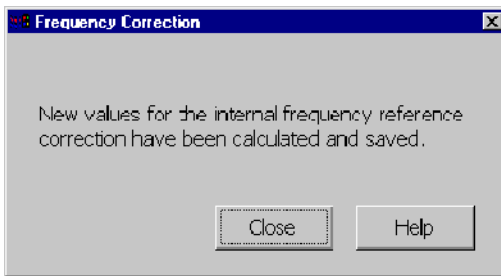

Figure 2-11: New frequency correction values calculated successfully
5. If the reference frequency is detected, tap **Finish >** to calculate new frequency correction values. If the calculation of new frequency correction values is successful, the dialog shown in Figure 2-11 appears.